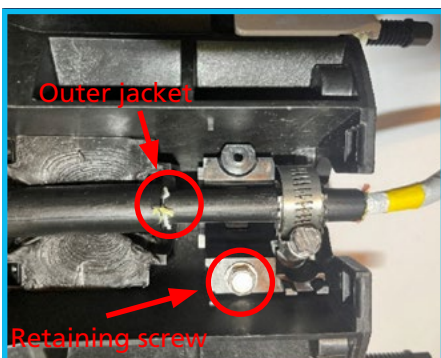

Figure 15
4. Fully tighten the retaining screw [figure 15]. Ensure the outer jacket cut is positioned just above the removable gel pack, adjust the positioning if required.